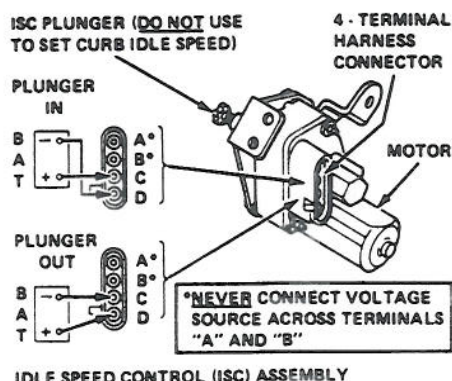

Fig. 21 Idle Speed Control (ISC) motor test connections. E2SE carburetor
4. Using a jumper wire, connect battery voltage to terminal "C" on ISC motor, Fig. 21, then connect a jumper wire between terminal "D" and ground. Do not leave battery voltage connected to ISC motor longer than necessary to retract solenoid plunger. Do not connect battery voltage to terminals "A" or "B" on motor. ISC motor will be damaged if connections are improperly made.